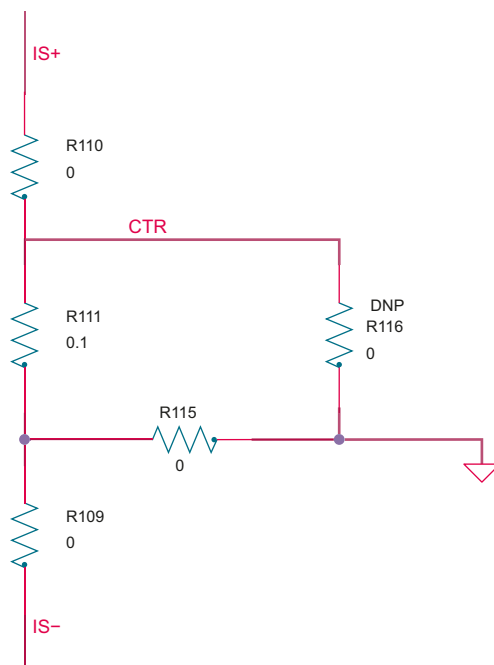

Figure 12. Resistor configuration
1. Make sure that R109, R110, R111 ( $0.1\ \Omega$  shunt) and R115 are populated and that R116 is not placed (see Figure 12).